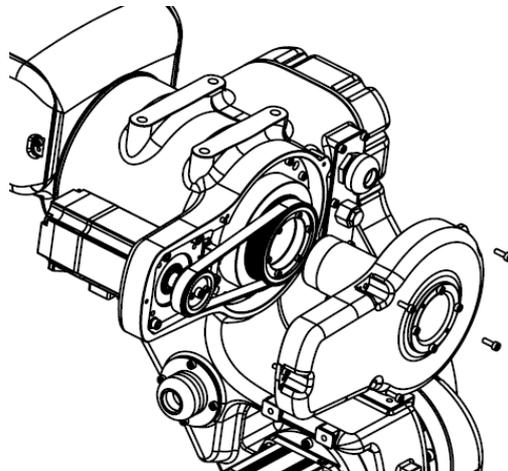

Figure 12-4 Diagram of removing J5 cover plate
- Step3. Remove the J4 cover plate and 5 screws, as shown in Figure 12-4.